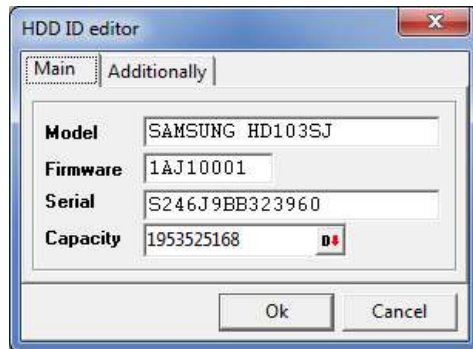

Fig. 5.14
- ♦ Editing of the model name by changing the HDD ID drive capacity in the 9D PARAM\_DM module. The Model list (Fig. 5.14) contains the manufacturer's list of standard models. When a model is selected from that list, the value in the Capacity field changes automatically. Editing of the Capacity field allows you to create nonstandard models that do not exist in the manufacturer's range of products.